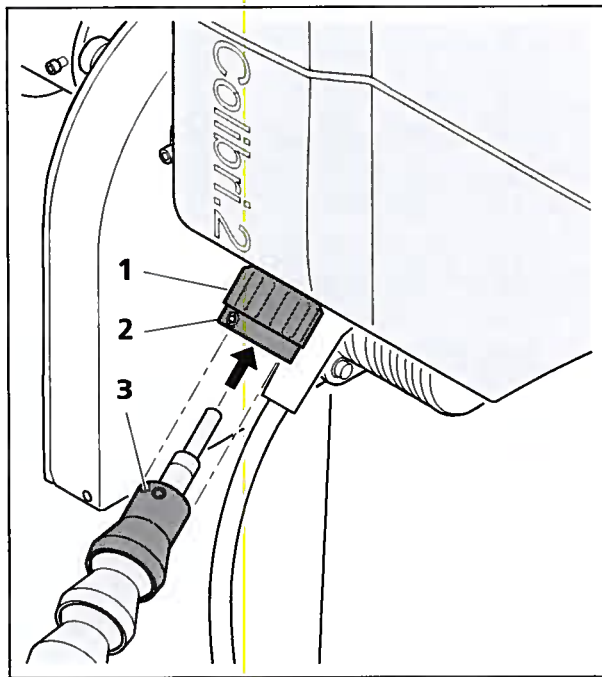

Fig. 6-3 Remove optical fiber (Colibri.2)
- Remove the red protective cap. Take care to loosen the cap nut (Fig. 6-3/1) and the stud screw (wrench size 2) (Fig. 6-3/2) (do not remove the cap nut completely).
- Loosen the stud screw (wrench size 2) (Fig. 6-3/2) of Colibri.2 which is inside the cap nut (Fig. 6-3/1).
- Loosen the cap nut and pull out the conical endpiece of the sheath (Fig. 6-3/3).
- Hold the optical fiber in this position and hand-tighten the cap nut (Fig. 6-3/1) so that the optical fiber is firmly placed in the collet chuck.
- Insert the conical part of the sheath (Fig. 6-3/3) into the cap nut (Fig. 6-3/1) until it stops.
- Tighten the stud screw (wrench size 2) (Fig. 6-3/2) which is inside the cap nut (Fig. 6-3/1).